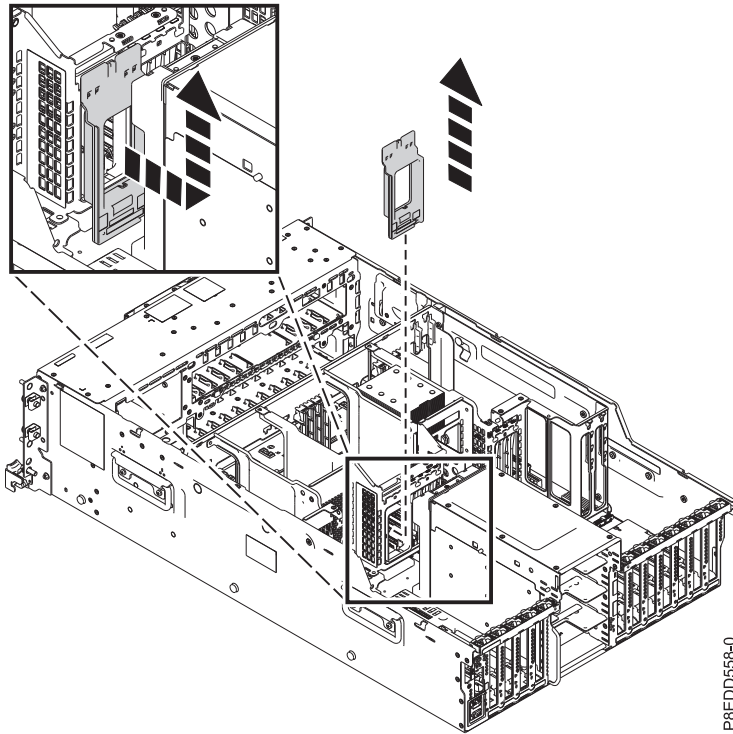

Figure 18. Removing the rear air baffle guide
- c. Remove the rear air baffle guide by pressing the rear air baffle guide latch and lifting the rear air baffle guide, as shown in Figure 18.